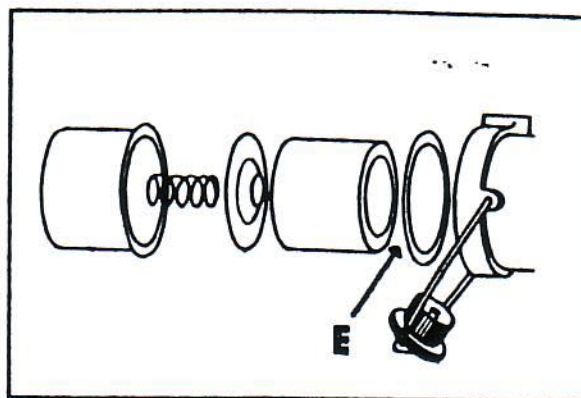

Figure 2.
11. After inspection or cleaning of sediment bowl, assemble filter as shown in Fig. 2.